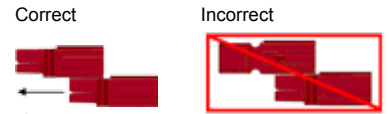

Figure 4
- Block Powerpoles® by interlock dovetails. The Powerpole® housing will be stacked one (1) wide and two (2) high. (See figure 4)